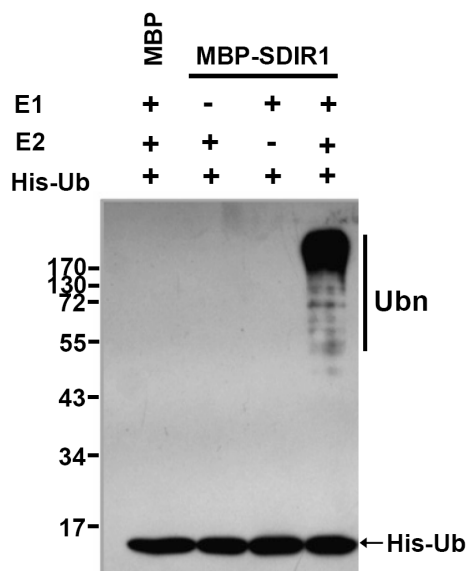

Figure 2. E3 ligase autoubiquitination activity of MBP-SDIR1 (Zhang *et al.*, 2007).
- c. The reaction products are separated with 8–12% SDS-PAGE gel and detected with anti-ubiquitin antibody or antibody for certain tag fused with ubiquitin or anti-MBP antibody by Western blotting. (see steps A5a-d) (Figure 2)